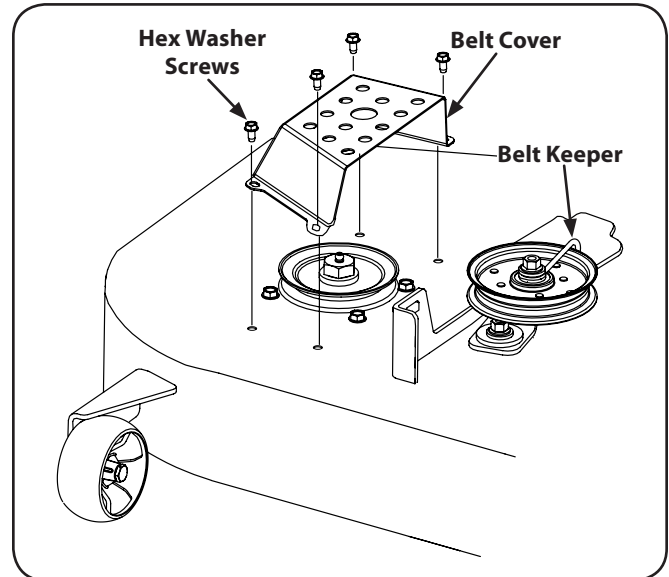

Figure 7-10
- Remove the hex washer screws securing the belt covers to the deck. See Figure 7-10.
2. Remove the hex washer screws securing the belt covers to the deck and loosen the belt keepers enough to slide the belt off the pulleys. See Figure 7-10.